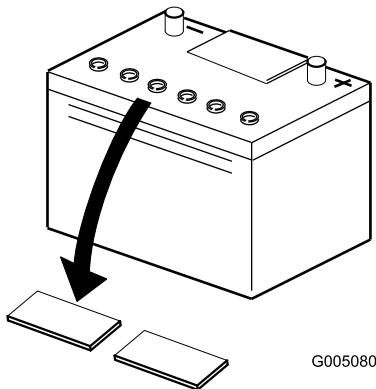

Figure 3
2. Clean the top of the battery and remove the vent caps (Figure 3).